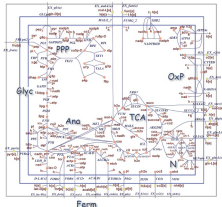

Figure 1. Metabolic map of the *E. coli* core model [2].
The COBRA Toolbox is based on metabolic network reconstructions that are biochemically, genetically, and genomically (BiGG) structured databases composed of biochemical reactions and metabolites [9, 10]. They store cellular organism metabolic information such as the reaction stoichiometry, reaction reversibility, and the relationships between genes, reactions, and proteins (enzymes). Although many organisms have similar central metabolic networks, there can be significant differences even between two closely related organisms, thus metabolic network reconstructions are therefore organism specific [4]. A simplified model of *E. coli*, referred to as the *E. coli* core model, is a great model to explore the analysis and exploration tools available through the COBRA toolbox which is the purpose of this tutorial. The metabolic map of the *E. coli* core model is shown below in Figure 1. In this figure, the larger letters on this map (Glyc, PPP, etc.) refer to the major subsystems included in this simple model which includes: (OxP) oxidative phosphorylation or energy management of the cell, (Glyc) glycolysis pathway, (PPP) pentose phosphate pathway, (TCA) tricarboxylic acid cycle, (Ana) glycylate cycle, gluconeogenesis, and anapleurotic reactions, (Ferm) fermentation, and (N) nitrogen metabolism. These subsystems will all be discussed in more detail later in this tutorial.